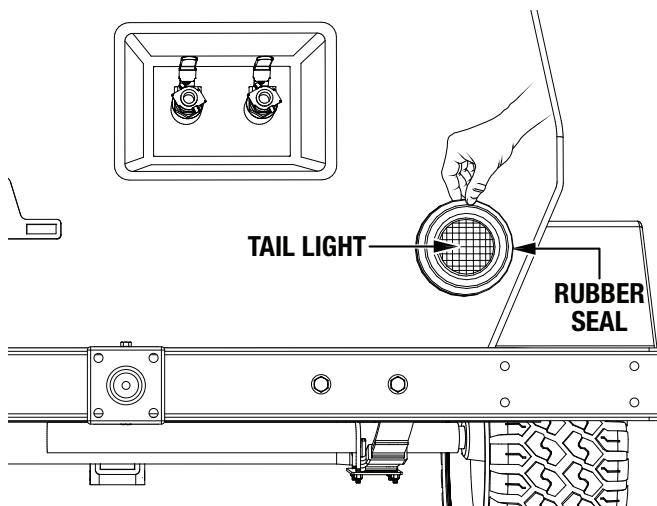

Figure 7. Tail Light Removal
1. Remove by hand the rubber seal securing the tail light (Figure 7) **on the fuel tank side** of the air compressor. Disconnect the tail light and set it and the rubber seal aside.